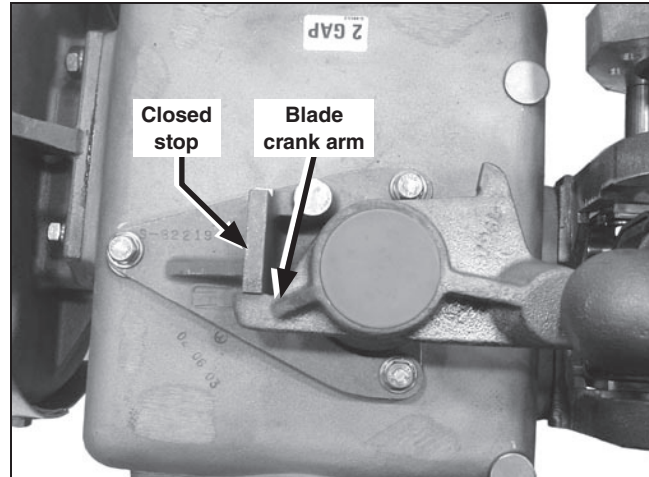

Figure 16. Top of brain, blade crank arm stop. Closed position.
No more than a 1/32-inch (0.8-mm) gap exists between the blade crank-arm and its associated blade crank-arm stop in the **Closed** position. See Figure 16 on page 20.
STEP 3. With the hand-operation adapter, operate each circuit-switcher pole-unit to its fully **Closed** position. See Figure 16. The drive-shaft crank should rest firmly in a toggle position against an internal drive-shaft crank stop in the **Closed** position. As in the **Open** position, a positive-toggle position of the drive-shaft crank should be maintained by the force exerted on the rotating-insulator lever by the toggle-loading snubber and transmitted by the operating link.